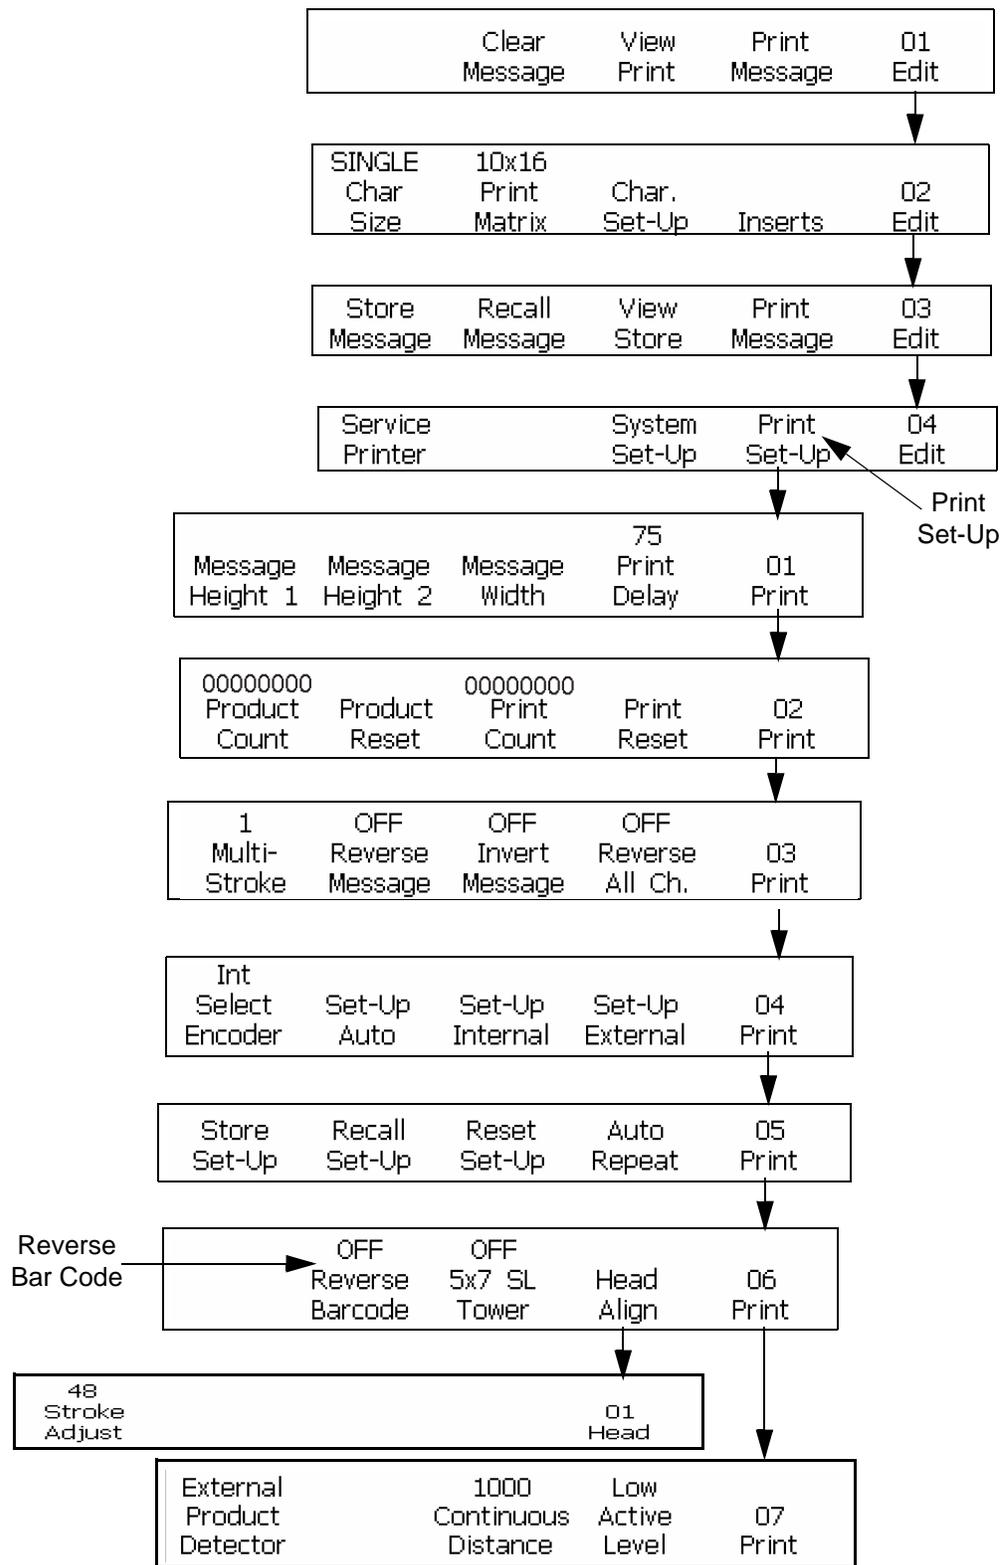

Figure 7-19: Accessing Frame <07 Print>
- 2 Begin with the Frame <06 Print>. Refer to Figure 7-19 on page 7-31.
- 1 Begin with the Frame <01 Head>. Refer to Figure 7-19 on page 7-31.
- Begin with the Frame <07 Print>. Refer to Figure 7-19 on page 7-31.
- 1 Begin with the Frame <07 Print>. Refer to Figure 7-19 on page 7-31.